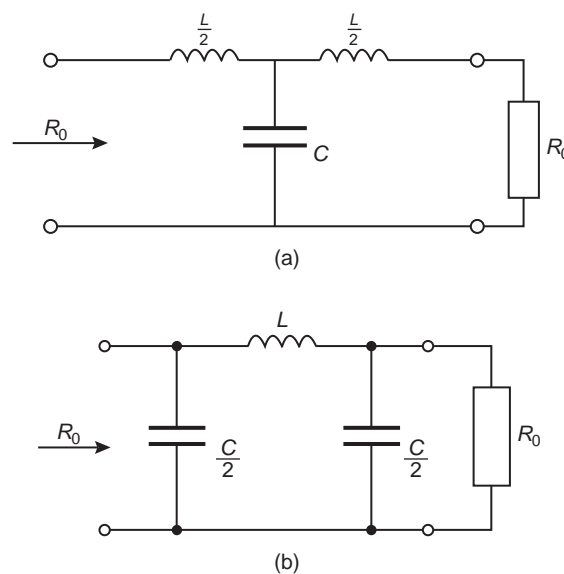
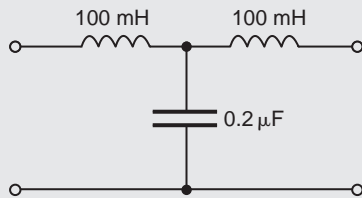
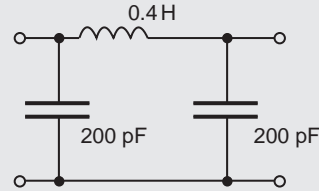
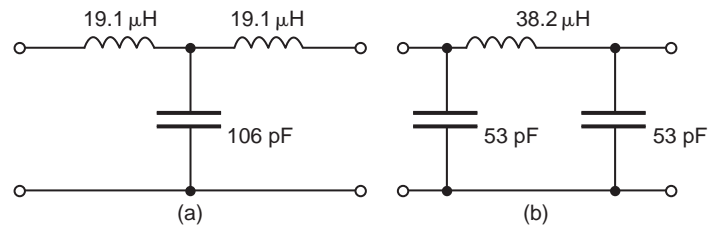

Figure 19.7
Figure 19.8
Figure 19.9
Figure 19.10
A low-pass symmetrical T-network and a low-pass symmetrical π -network are shown in Fig. 19.7. It may
Problem 1. Determine the cut-off frequency and the nominal impedance for the low-pass T-connected section shown in Fig. 19.8.
Comparing Fig. 19.8 with the low-pass section of Fig. 19.7(a), shows that:
Problem 2. Determine the cut-off frequency and the nominal impedance for the low-pass π -connected section shown in Fig. 19.9.
Comparing Fig. 19.9 with the low-pass section of Fig. 19.7(b), shows that:
- (a) A low-pass T-section filter is shown in Fig. 19.10(a), where the series arm inductances are each $\frac{L}{2}$ (see Fig. 19.7(a)), i.e. $\frac{38.2}{2} = 19.1\ \mu\text{H}$
- (b) A low-pass π -section filter is shown in Fig. 19.10(b), where the shunt arm capacitances are each $\frac{C}{2}$ (see Fig. 19.7(b)), i.e. $\frac{106}{2} = 53\ \text{pF}$